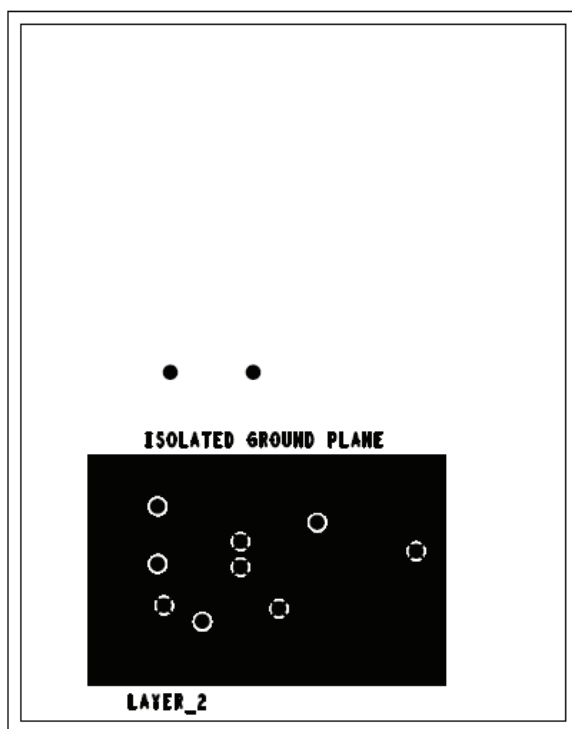

Figure 9 Layer 2
5. Use an isolated dedicated ground plane connected only to components associated with the IR3721 that connect to GND as shown in figure 9. Connect this dedicated ground plane at one location only to the ground of the monitored voltage. The thermally relived via in figure eight illustrates this connection.